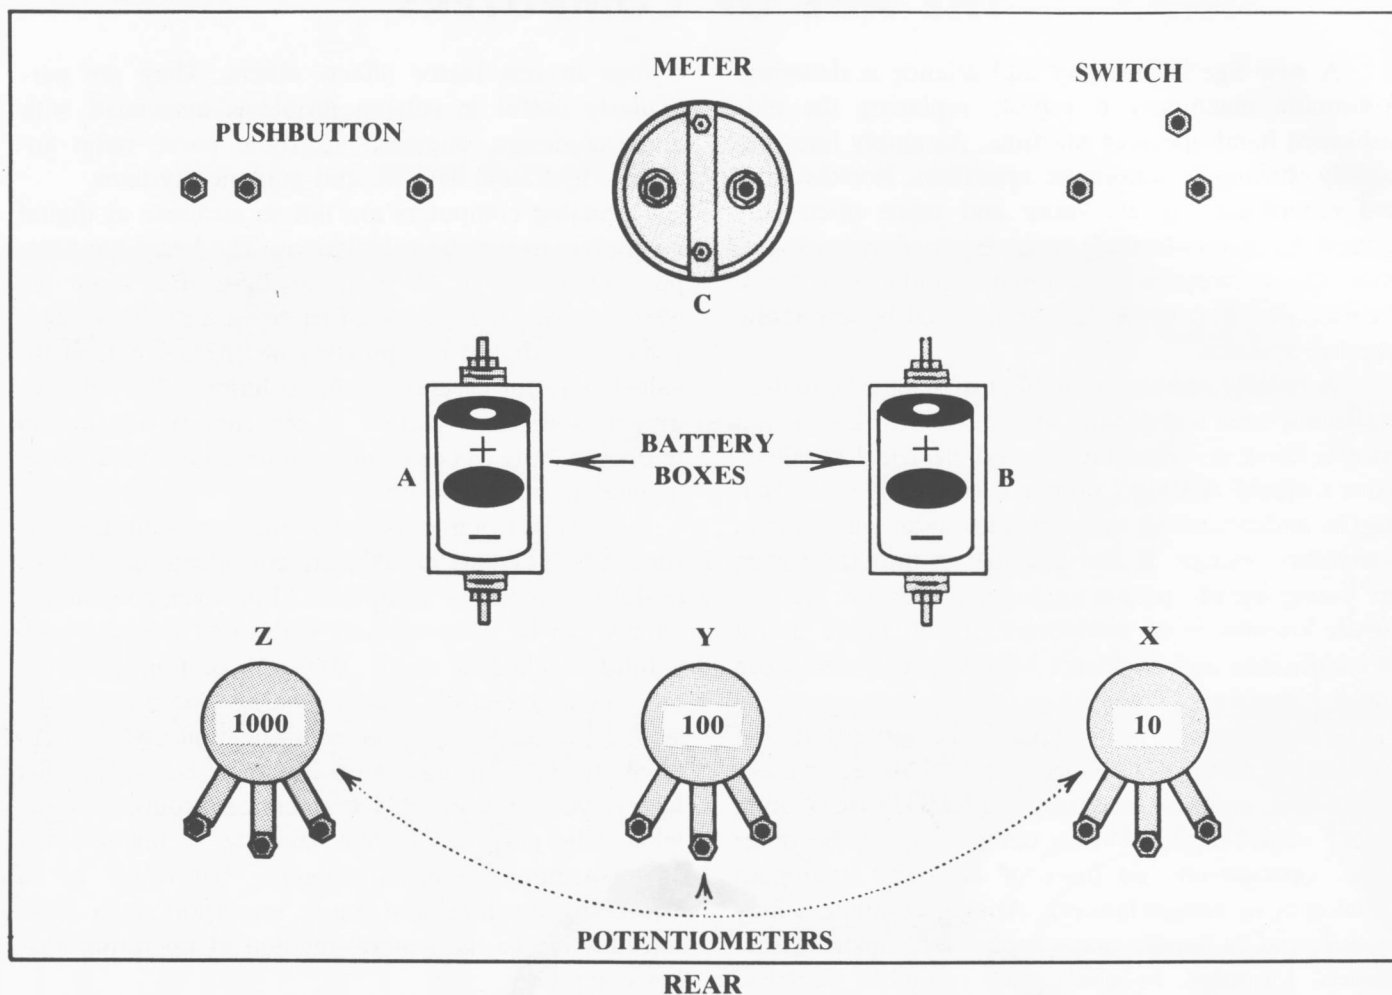
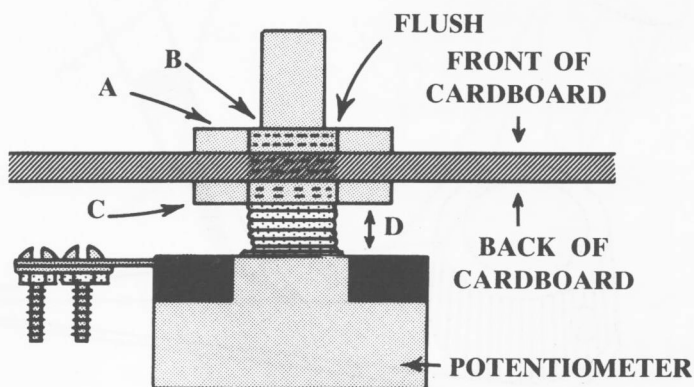

Fig. 2—Appearance of the back of the computer with all parts in place, before wiring.
Fig. 10
3) In Fig. 2, note the positions of two flashlight-cell boxes (A and B). Note that the end marked (+) is closer to the upper part of the computer box while the end marked (—) is closer to the bottom.
Now peel off the protective coating from the exposed side. Place the computer box face downward on a large, *clean*, flat surface on a table. Press the adhesive side of the flashlight cell box down against the box, as shown in position A of Fig. 2. Reach into the box and press all parts of the bottom of the cell box against the computer box to ensure
Replace the flashlight cell, making sure that the (+) terminal (top of cell) is touching the bolt marked (+). Lock the box with the special small flap on the side. Attach the second cell box in the same way, as shown at B in Fig. 2.
The placement of these boxes in the positions shown in Fig. 2 serves an important purpose. They support the center of the computer box and make it more rigid.
5) Remove the meter from the box. There is a U-shaped bracket (C in Fig. 2) on the back of the meter. Remove the U-shaped bracket from the meter by loosening the two nuts. Put the nuts aside in a place separate from the other parts in the kit. From the front of the computer, insert the meter into the hole in the box in the position shown at A in Fig. 1. Be sure that the meter is positioned with the needle pointing toward the top of the box. From the back, slip the U-shaped bracket over the two bolts of the meter, as shown at C in Fig. 2.
There are 6 very large nuts in your kit. Two are used to attach each pot to the computer box. Twirl a large nut about half way onto the threaded part of each pot, as shown at C in Fig. 10.
Examine Fig. 2, which shows the computer box from the rear. Note that pot Z (1000 ohms) is at the left, pot Y (100 ohms) is at the center, and pot X (10 ohms) is at the right. (When you turn the box around and view it from the front, the positions of the pots will appear in the proper order: X, Y, Z, as in Fig. 1.)
Select the pot marked with the number 1000 on the metal case. From the rear, insert the threaded part of the pot through the hole in the computer box, as shown in Fig. 2. The threaded part now juts out through the front end of the box. Place one of the very large nuts on the threaded part of the pot from the front of the computer box. Before final tightening,
check the position of the pot from the back and see that its three terminals point downward, as shown in Fig. 2. Also check to see that none of the threaded part sticks up beyond the nut at the front. Note in Fig. 10 that the end of the nut (A) is flush with the bushing (B). If it projects out, remove the pot and rotate nut C so as to increase distance D somewhat. Insert once again and tighten with a nut on the front so that the threaded part does not project beyond the nut.